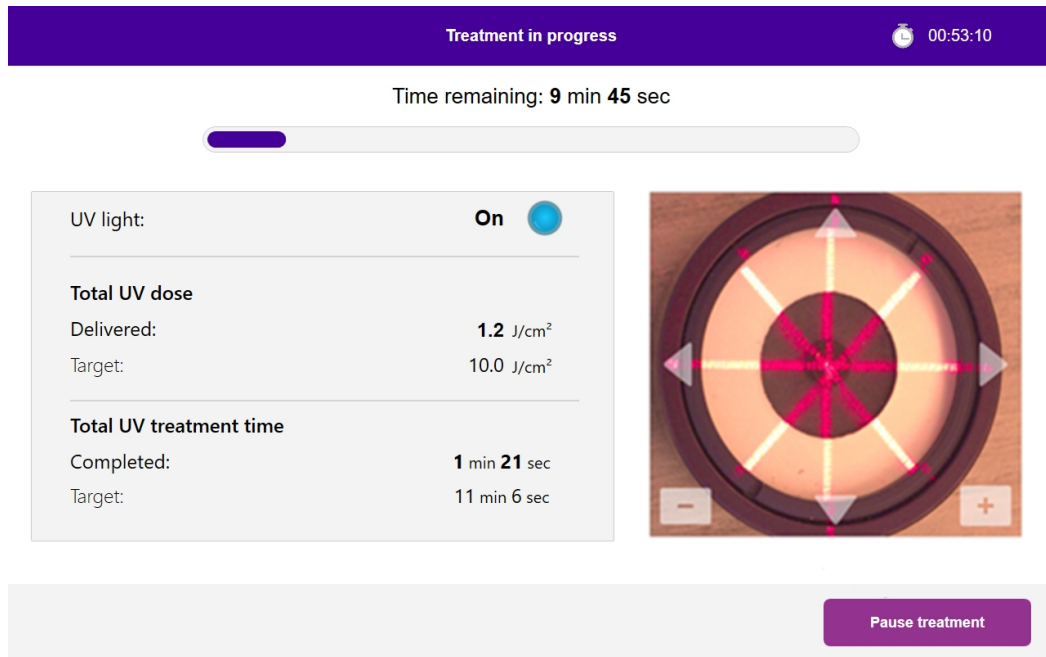
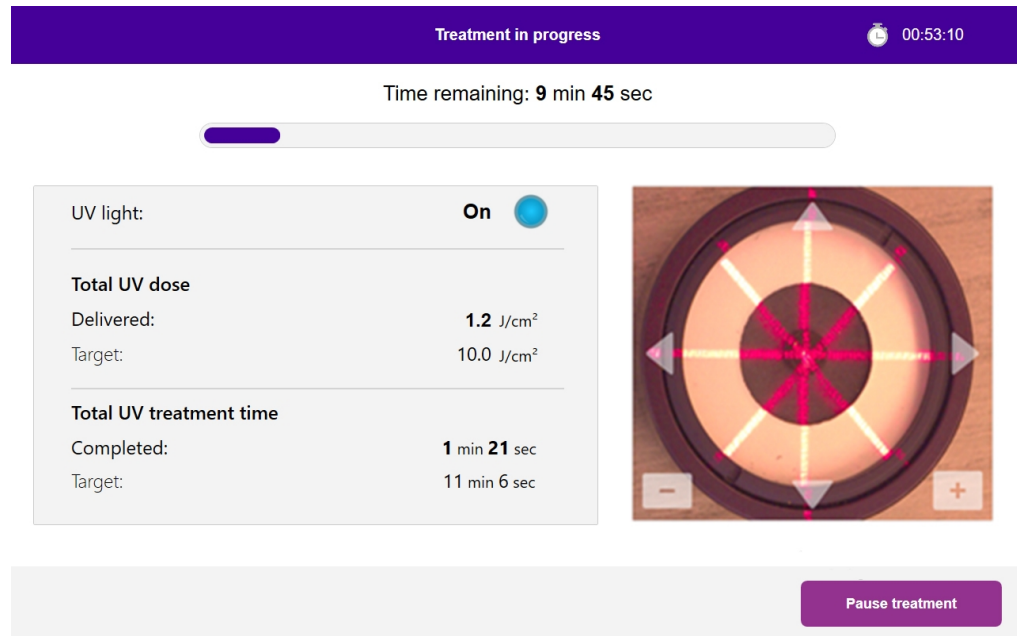

Figure 3-20. UV-A Treatment Screen
Figure 3-21. Treatment in Progress Screen
- Press “Start treatment” button shown in Figure 3-20. The screen in Figure 3-21 will display “Treatment in Progress” as shown. Treatment time remaining will count down from 11 minutes, 6 seconds.